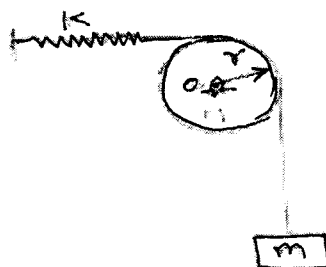

Figure.2
5. Derive the equation of motion for the following system shown in fig.2 and determine the natural frequency.